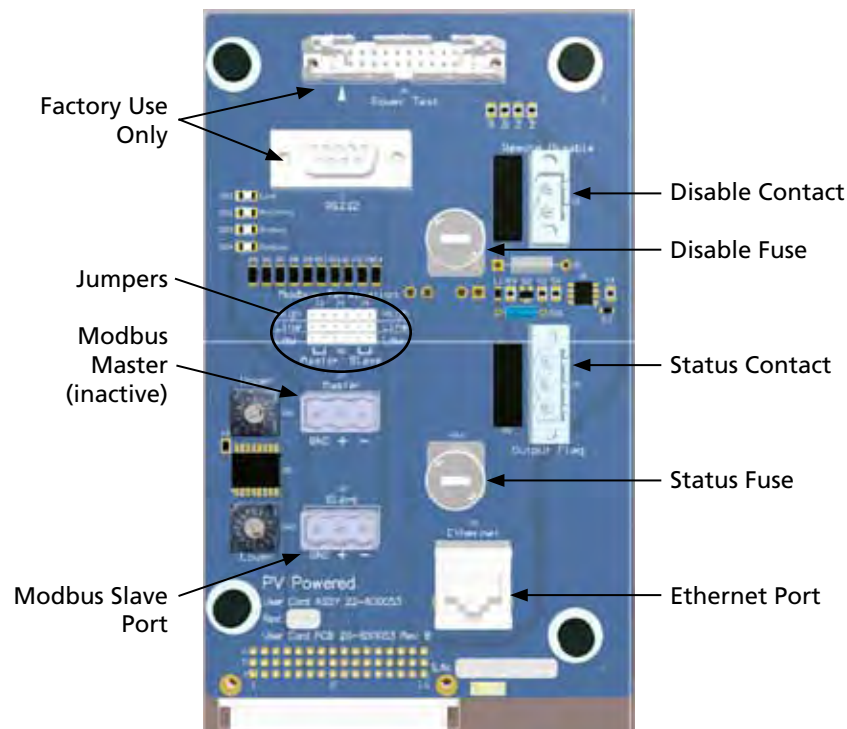

Figure 5-1 User Interface PCB with Modbus Slave Port Location
- B. Connect the Modbus Ethernet cable to the Ethernet port on the User Interface PCB. The User Interface PCB is located on the right side of the circuit board card cage in the upper section of the inverter. See Figure 5-1 for the location of the Ethernet port.
The end of the Modbus cable connects to the Modbus slave port connector on the User Interface PCB. See Figure 5-1 for the location of the Modbus slave port.